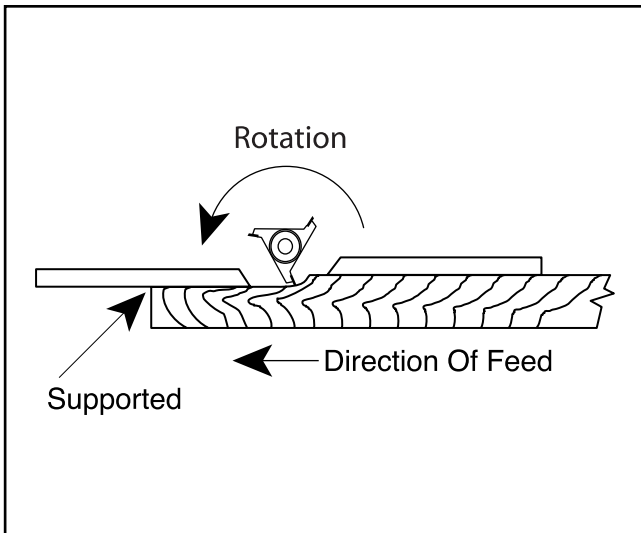

Figure 37. Fence adjusted to support workpiece.
6. Once the shaper is turned off and the cutter has come to a complete stop, adjust the out-feed fence to support the new profiled edge. **See Figure 37.**